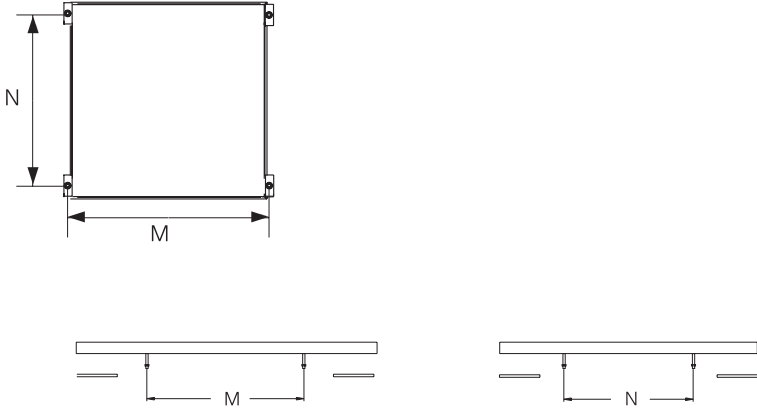
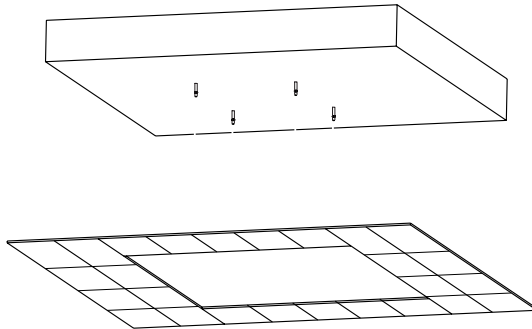

figure 3
figure 4
2. Ensure the mounting distances M and N are measured (refer to figure 3). Install the brackets to the roof via the screws (figure 4).